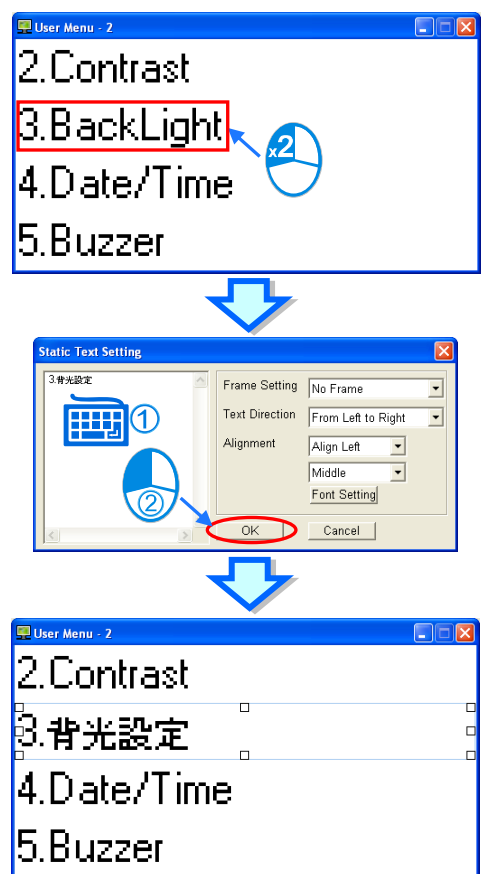

Figure 3-5 Modifying a user menu
- (2) The users can edit the menus in the language they want to use. Owing to the fact that the functions and the sizes of the menus have been defined, the users can not change the functions and the sizes of the menus. They can only change the languages which are used.
- (3) The users can select a page they want to modify, and then move the pointer to the item which they want to modify. After the users double-click the item, the **Static Text Setting** window will appear. The user can edit the item in the language they want to use in the window, as shown in Figure 3-5.